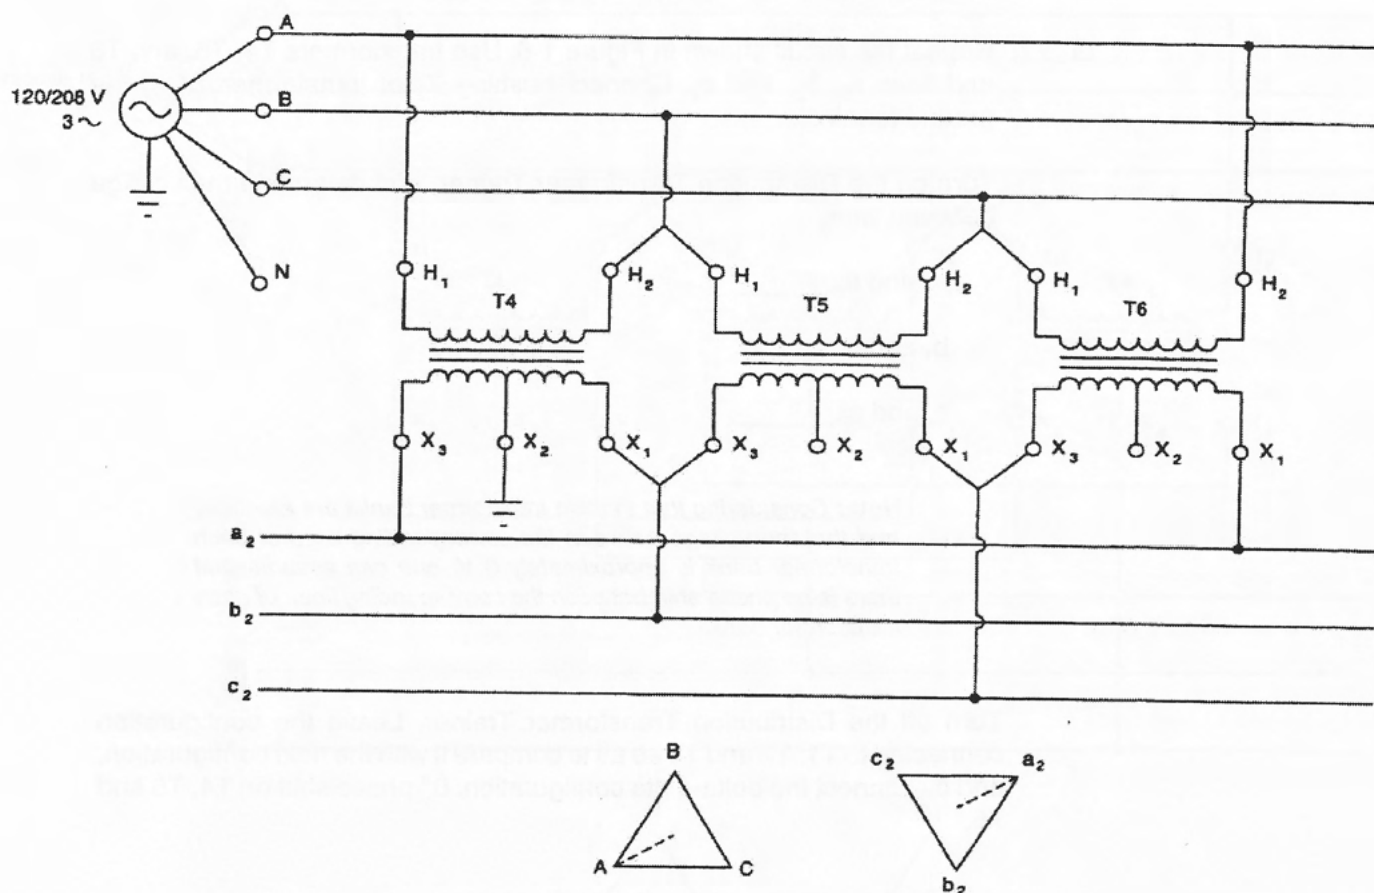

Figure 1-7. Delta-delta, 180° phase shift.
- ☐ 8. Connect the circuit shown in Figure 1-7. Use transformers T4, T5, and T6 and lines a_2 , b_2 , and c_2 . Connect bushing X_2 of transformer T4 to the ground terminal.